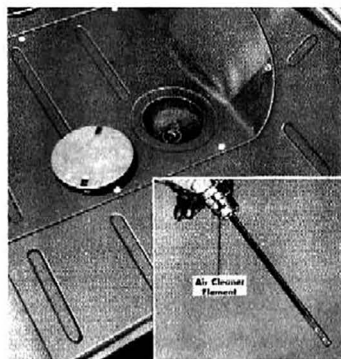

Fig. 84—Checking Transmission Fluid Level
2. Lift access hole cover plate on floor pan (fig. 84) to give access to oil breather and level indicator assembly.
5. Remove oil breather and indicator assembly (see "Checking Hydra-Matic Fluid") and wipe it clean. Clean indicator cap air cleaner (fig. 84) in cleaning solvent.